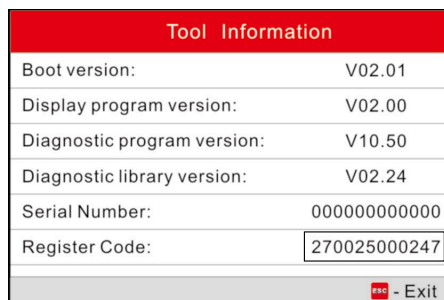

Figure 6
8. This is the Register Code number for inputting into step 4 (Figure 6).